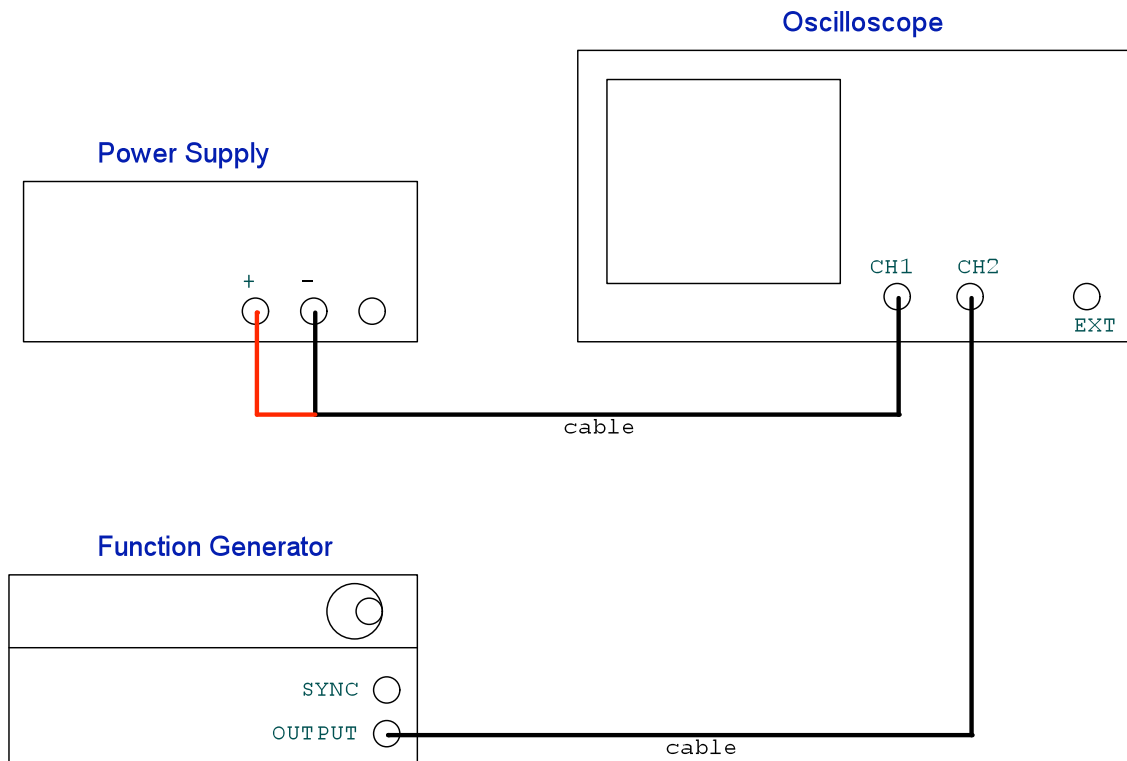

Figure 2. AC Voltage Measurements
- C. Connect the function generator and power supply to the oscilloscope as shown in Figure 2. (Leave the power supply turned off.)